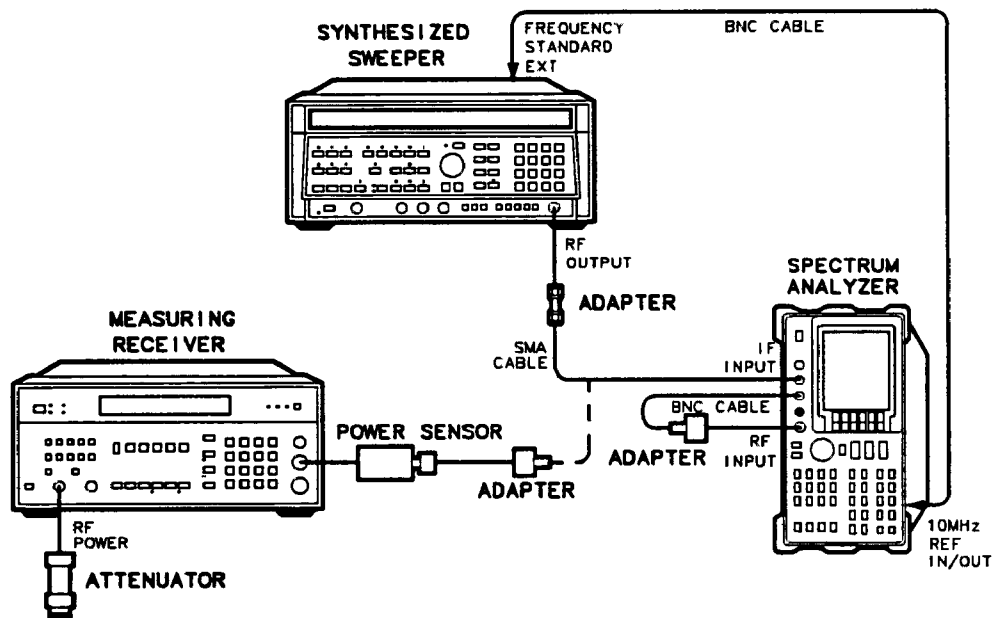

Figure 2-17. External Mixer Amplitude Adjustment Setup
2. Set up the equipment as illustrated in Figure 2-17. Do not connect the SMA cable to the HP 8562A/B.